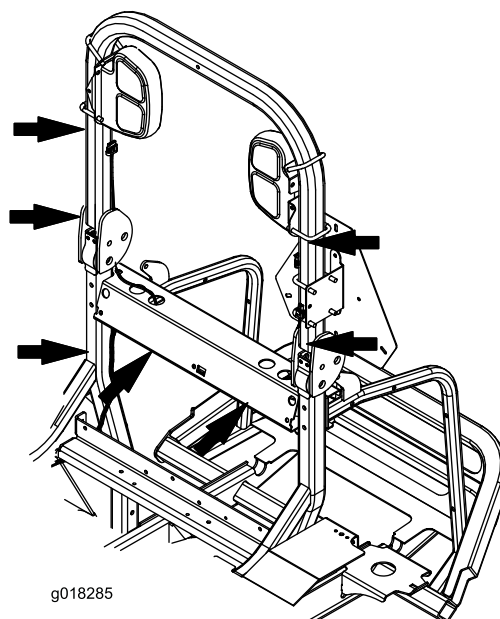

Figure 9
16. Secure the harness to the cross member with 2 cable ties. If there is a harness already secured to the cross member, secure the new harness to it using a cable tie (Figure 9).
17. Secure the harness to the ROPS with 5 cable ties (Figure 9).